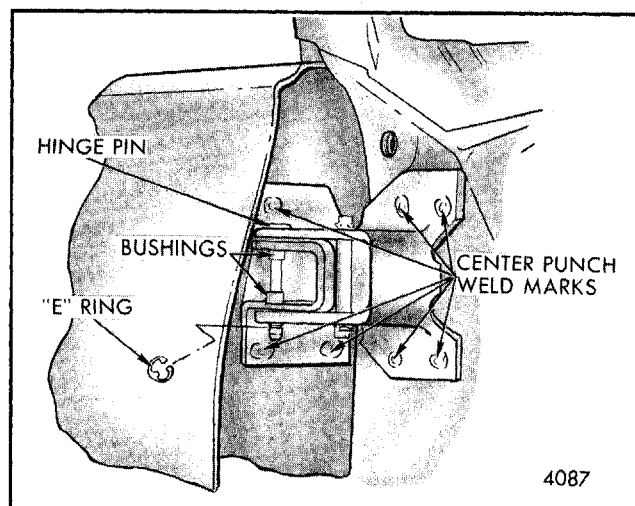

Fig. 5-94-Front Door Hinge E Ring Removal - X Styles
1. Remove E ring (snap retainer) from lower end of both upper and lower hinge pins (Fig. 5-94).
4. Center punch visible weld marks on hinge base as shown in Figure 5-94 and drill a 1/8" pilot hole completely through welds at center punch marks.